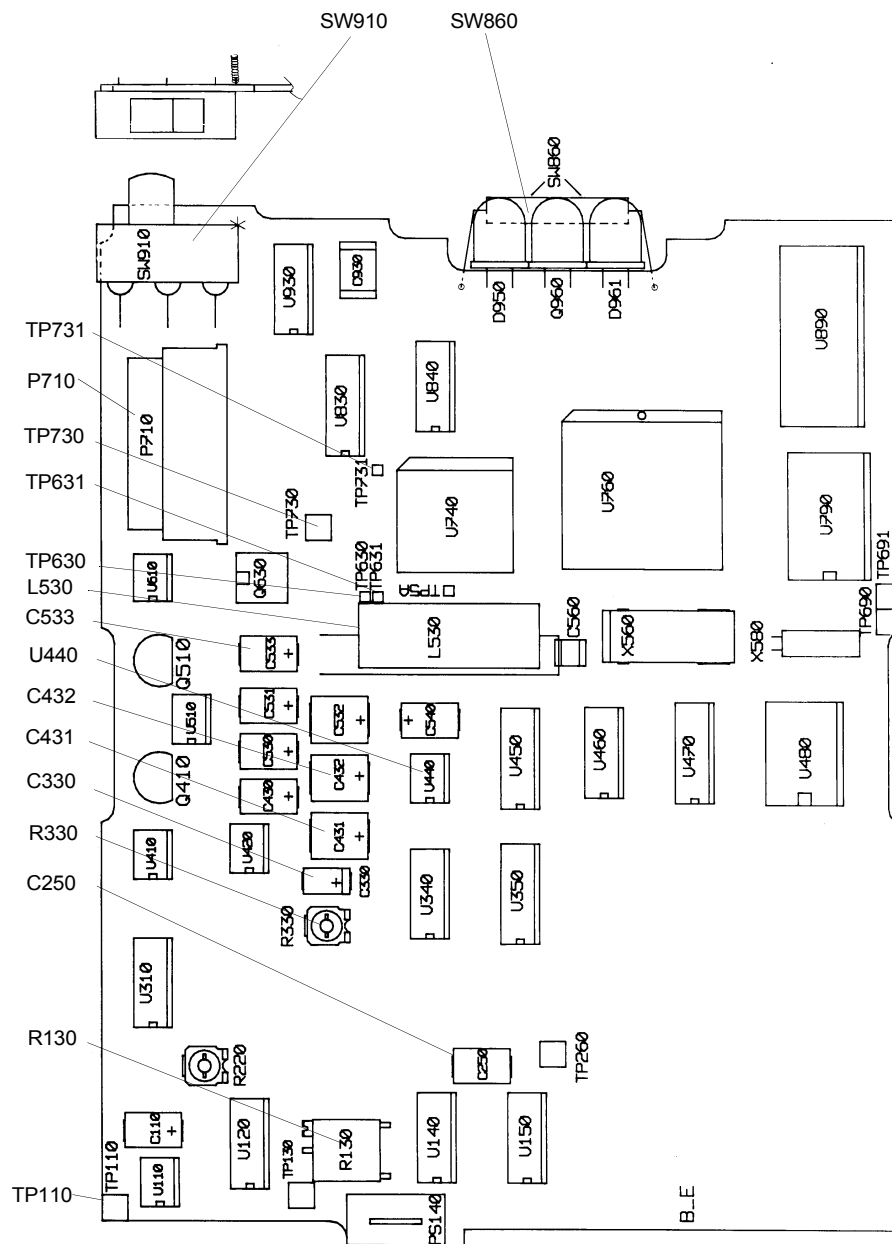

Figure 4-5: Main board components for P/N 670-0303-10 (and earlier versions)
Refer to *Figure 4-5* to identify test points and other components when conducting calibration and verification procedures for PCBAs P/N 670-0303-10 (and earlier versions).
- 9 For main board assemblies P/N 670-0303-10 (and earlier versions) set the ADR reference voltage, measured at +C330, to 3.672 V \pm 0.001 V by adjusting point R330. To locate this point, refer to *Figure 4-5* on page 4-9.